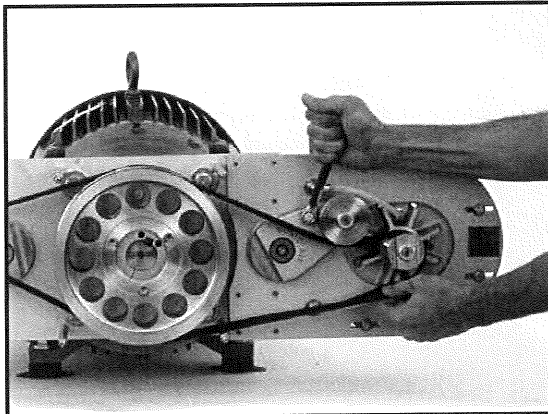

Figure 14 – Remove Belt
2. Using the 9/16 inch box-end wrench, rotate the belt tensioner arm counter clockwise (CCW) and remove the belt. (See Figure 14)